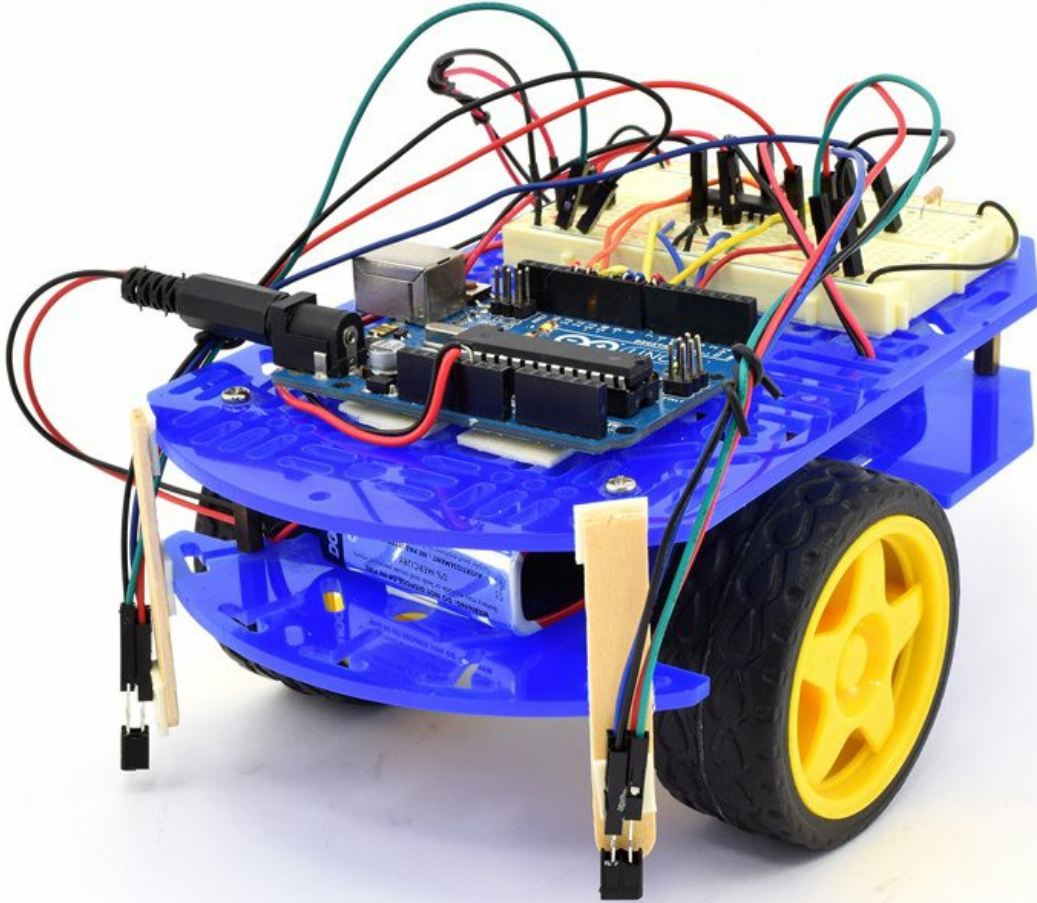

Figure 10. Robot with two downward-facing IR sensors mounted on the front.
- a. You can use popsicle sticks and tape to mount downward-facing IR sensors on your robot (Figure 10).